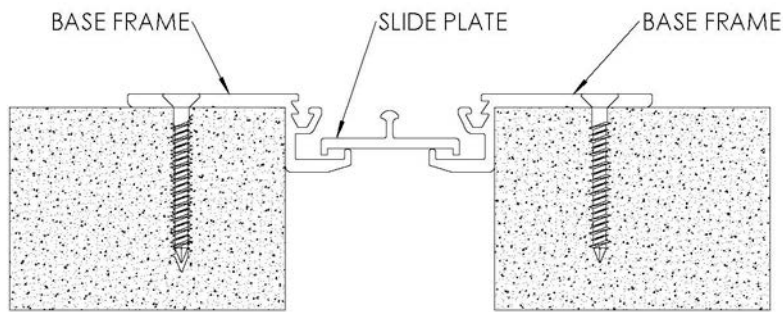

FIGURE 2
2. Place slide plate (not required on 1” joint sizes) in the lower channels of the base frames with the bent ends of the plate pointing downwards. **See Figure 2**